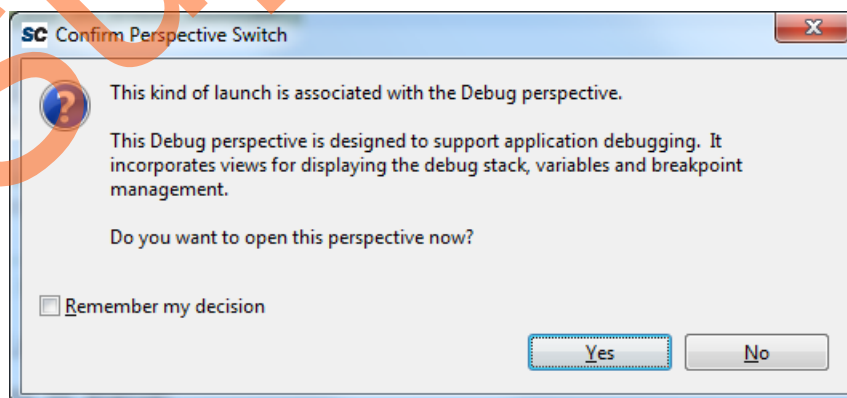

Figure 36 • Confirm Perspective Switch
17. Click **Yes** when prompted for the **Confirm Perspective Switch**, as shown in Figure 36. This displays the debug view mode.